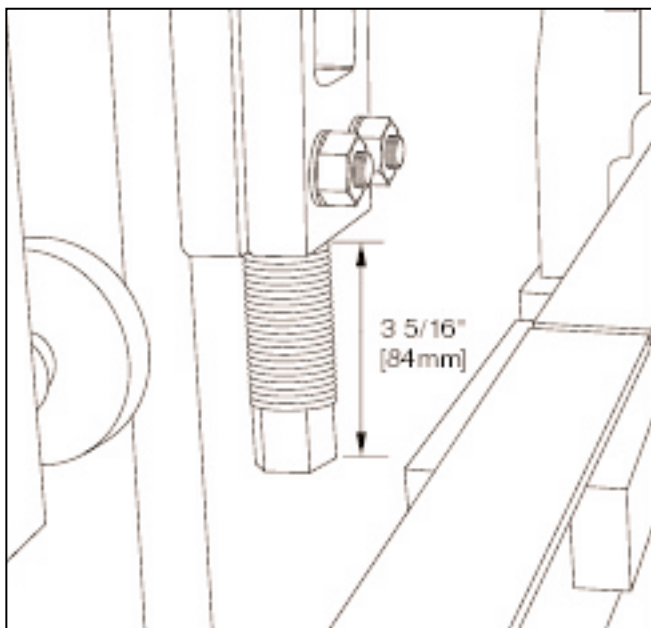

Figure 4.33 ADJUSTING UPPER HEIGHT STOPS
4.3.3 Install the 7" [178mm] long upper height stops and adjust so that 3 5/16" [84mm] extend past the bottom of the castings (see figure 4.33).